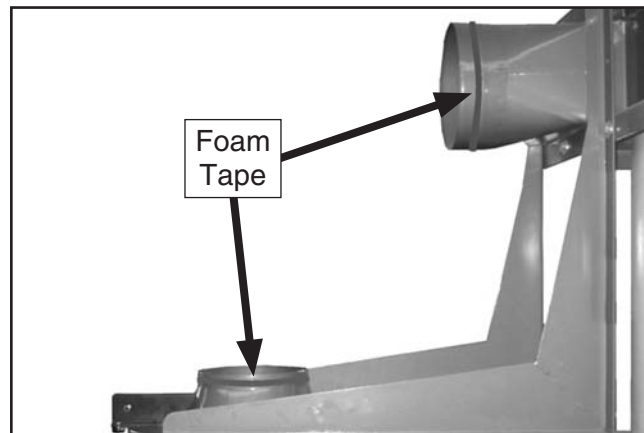

Figure 21. Foam tape applied to the outlet port and canister adapter (Model G0440).
- a. Apply the 3 x 15mm foam tape to the edges of the outlet port and the canister adapter, as shown in **Figure 21**.